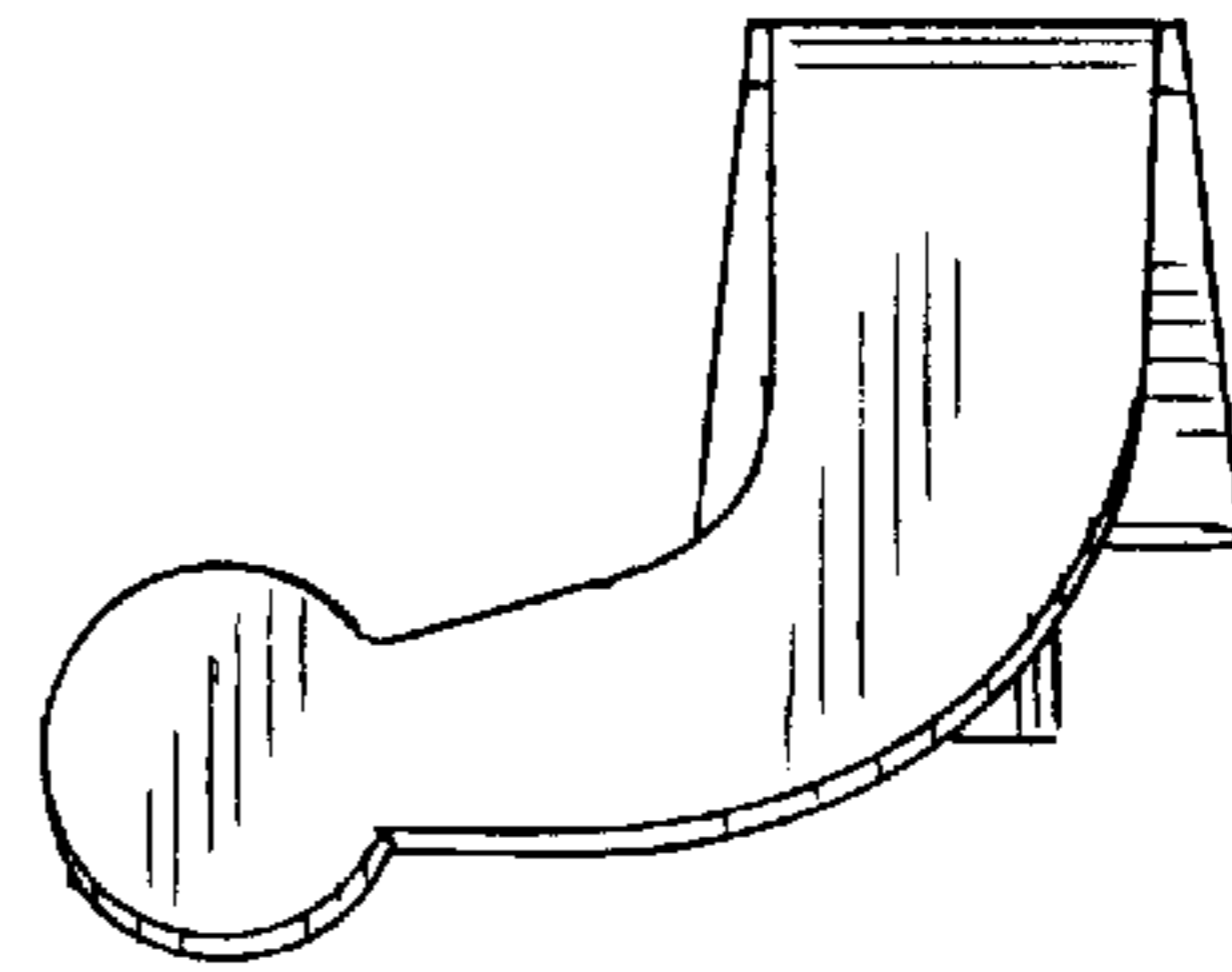

FIG. 2
- FIG. 2 is a right hand end view of the lever thereof;